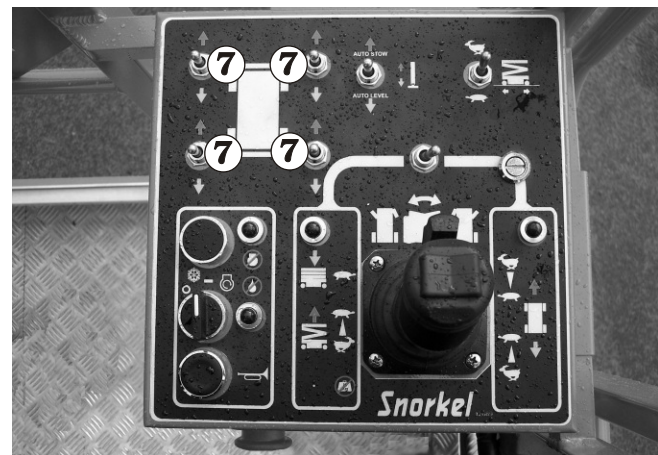

Figure 8.24
2. Push and hold the **Stabiliser** switches 7 forward until all the stabilisers are completely up (see Figure 8.24).